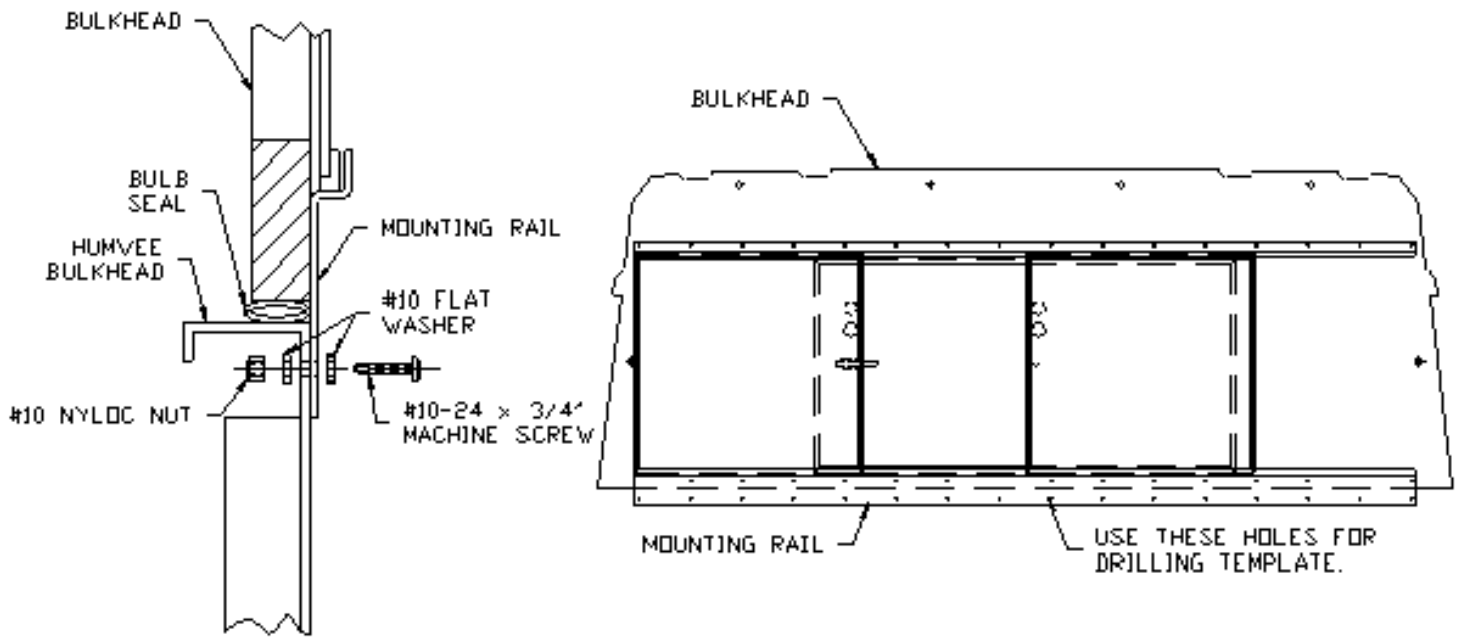

FIG 1-6
14. Loosen the screws that secure the four L-brackets to the hard top bulkhead so that the brackets can slide up and down. Position the hard top bulkhead on top of the vehicle bulkhead. The mounting rail on the hard top bulkhead should face the rear of the vehicle. Using the holes in the mounting rail as a template drill through the rear panel of the vehicle bulkhead with a 3/16" drill bit. Secure the mounting rail to the vehicle bulkhead with (16 ea.) #10-24 x 3/4" machine screws, (16 ea.) #10 nyloc nuts, and (32 ea.) #10 flat washers. See figure 1-6.